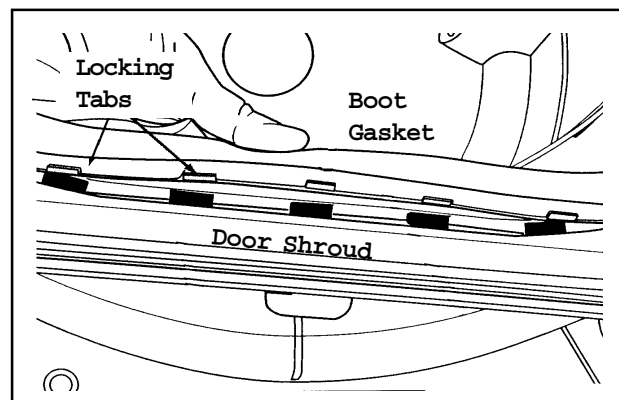

Figure 7-1
6. Unsnap the locking tabs of the door boot around the inside perimeter of the door shroud (**Figure 7-1**).